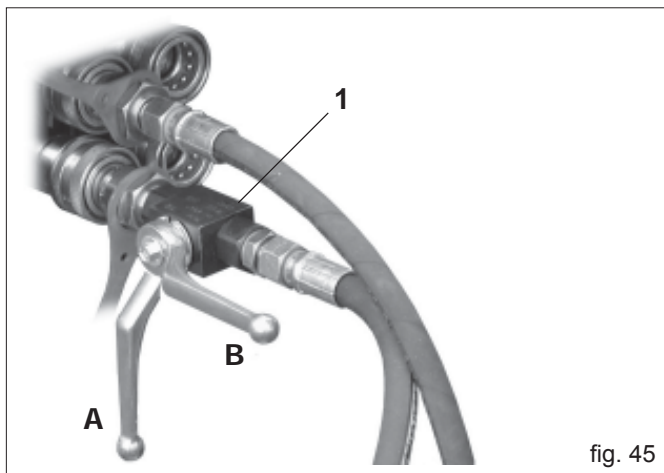

fig. 45
The row marker device has a valve that actuates the two arms alternately, so reducing use to a single tractor hydraulic distributor. The hydraulic delivery pipe has a tap (1 Fig. 45) that is necessary for excluding the operation of the row marker. **During road transport of the planter, the tap lever must be put in position A (Fig. 45), to prevent accidental opening of the row marker;** this lever is in position B while working.
- 5) Before actuating the row marker device, rest the planter on the ground and put the tap lever in position (B) Fig. 45.
- 8) Put the tap lever in position (A) Fig. 45.